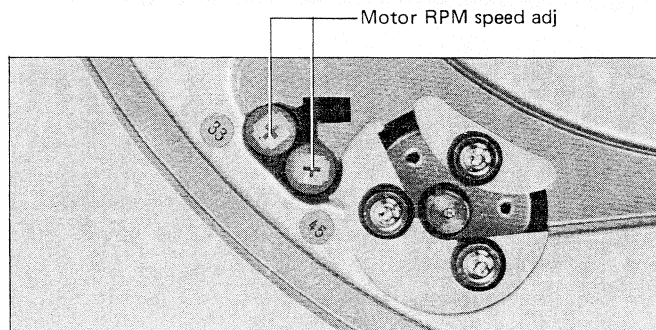

Fig. 11
6-(1) Motor RPM adjustment (Fig. 11)